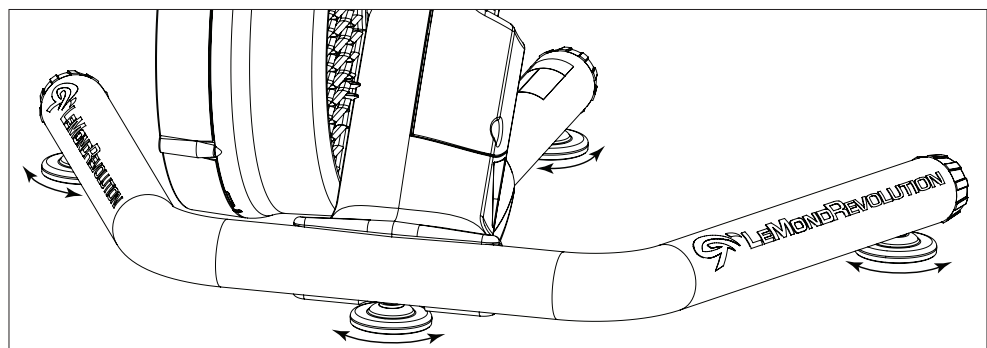

FIGURE 1.4
5. Place the entire unit on the floor where it will be used, and adjust the leveling feet to ensure stability. (Figure 1.4)